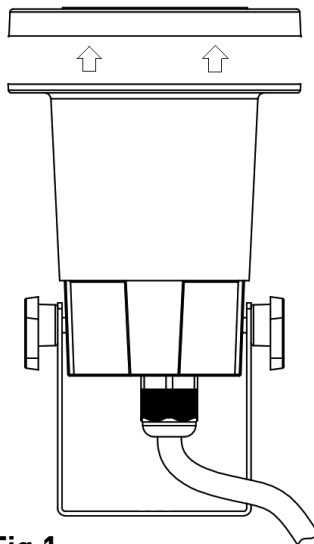

Fig 1
- Remove the four screws on top of the fitting and pull the bezel away from the fitting (see Fig 1)